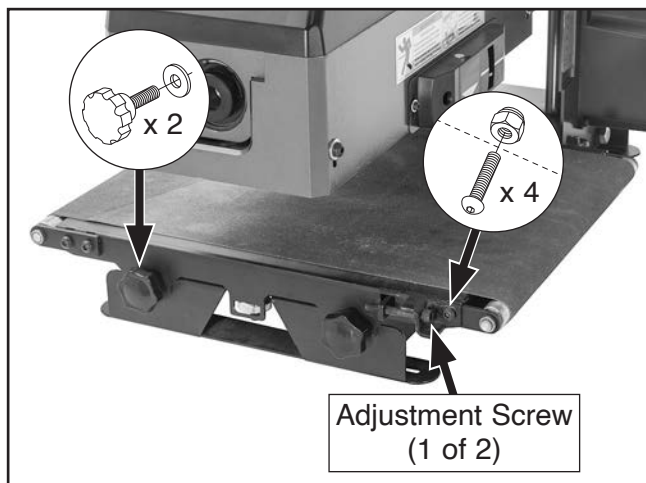

Figure 37. Location of left table adjustment components.
4. Rotate (2) adjustment screws (see **Figure 37**) counterclockwise to slide front roller as far back as it will go.
Note: If roller does not move, (4) lock nuts on button head cap screws shown in **Figure 37** may need to be loosened.
5. Remove lock knobs and flat washers shown in **Figure 37**.